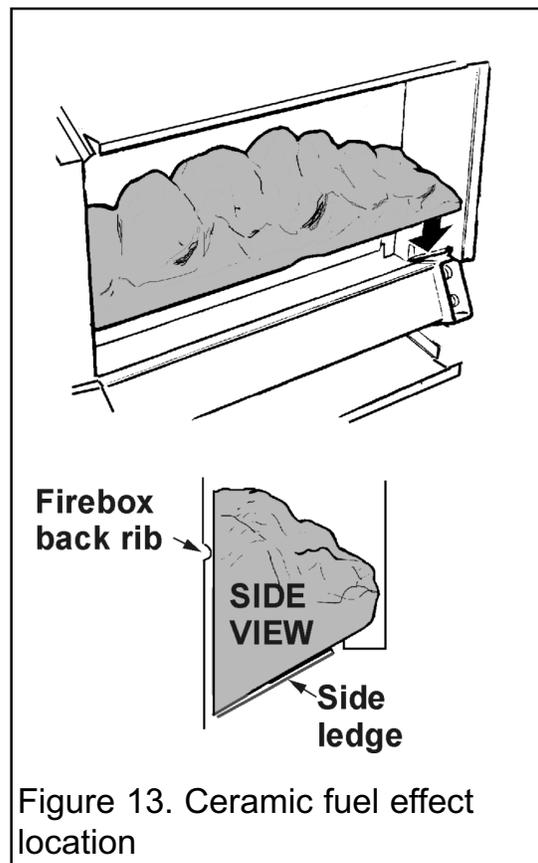

Figure 13. Ceramic fuel effect location
1. Place the ceramic fuel effect in position. Make sure that it rests on the ledges at the sides of the firebox and that its back face is touching the horizontal rib at the back of the firebox (See figure 13).